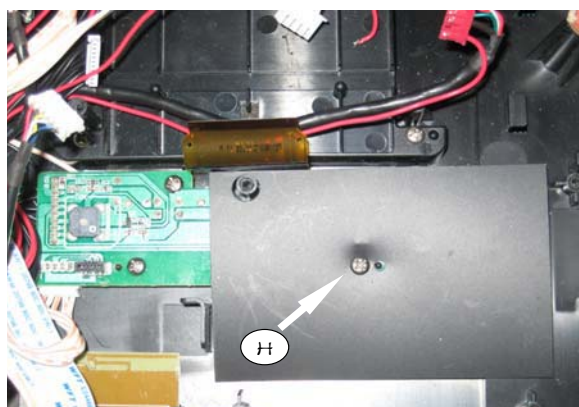

Figure 8
- 1) Loosen 1 screw "H" to detach PVC sheet as shown in figure 8.